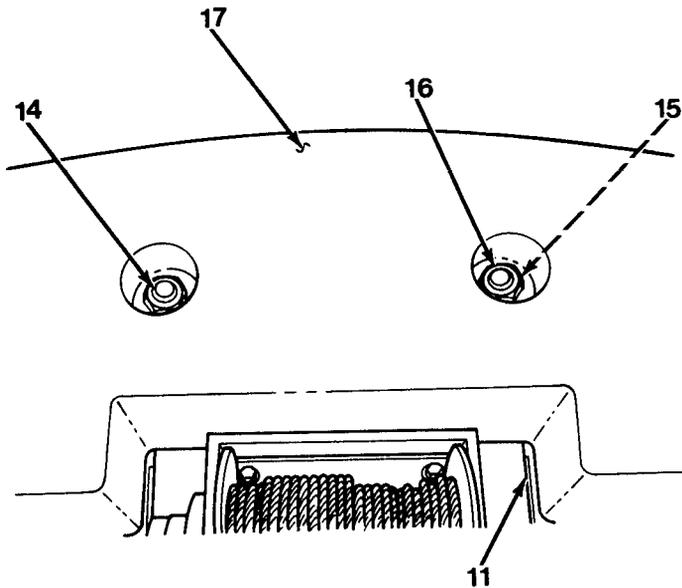

Figure 15-5
1. Support counterweight (11) with a lifting device. Lower counterweight (17) onto upperstructure (11) and secure with two capscrews (14), washers (15) and lock nuts (16, Figure 15-5). Torque capscrews (14) to 845 lb-ft (1,146 N•m).